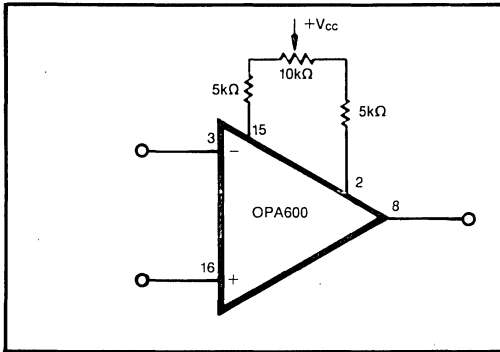

FIGURE 4. Offset Null Circuit.
NOTES: (1) Refer to Figure 4 for recommended frequency compensation. (2) Connect pin 9 to pin 12 and connect pin 7 to pin 6 for maximum output current. See Application Information for further information. (3) Bypass each power supply lead as close as possible to the amplifier pins. A 1μF CS13 tantalum capacitor is recommended. (4) There is no internal connection. An external connection may be made. (5) It is recommended that the amplifier be mounted with the case in contact with a ground plane for good thermal transfer and optimum AC performance.
The offset voltage of the OPA600 may be adjusted to zero by connecting a 5k Ω resistor in series with a 10k Ω linear potentiometer in series with another 5k Ω resistor between pins 2 and 15, as shown in Figure 4. It is important that one end of each of the two resistors be located very close to pins 2 and 15 to isolate and avoid loading these sensitive terminals. The potentiometer should be a small noninductive type with the wiper connected to the positive supply. The leads connecting these components should be short, no longer than 0.5-inch, to avoid stray capacitance and stray signal pick-up. If the potentiometer must be located away from the immediate vicinity